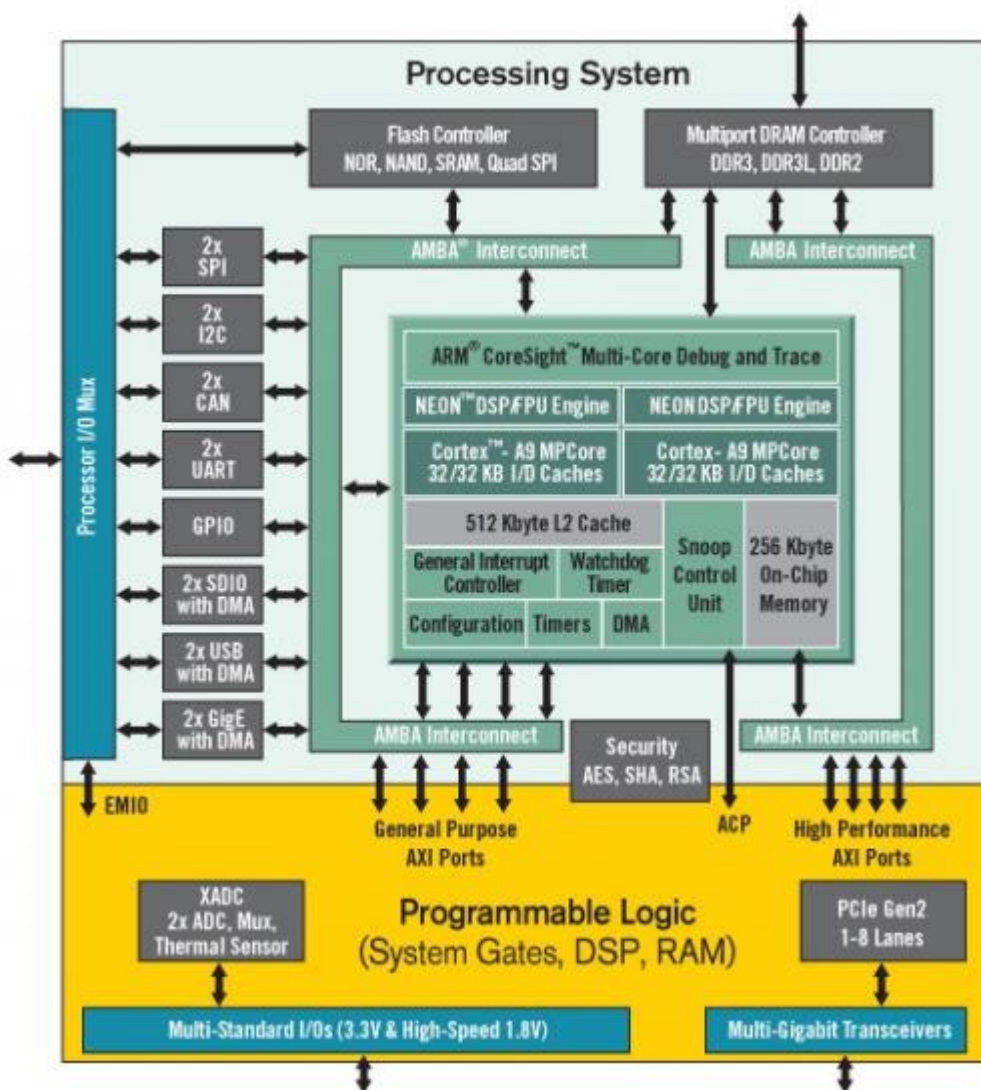

Figure 2.1 Zynq APSoC architecture
The Zynq APSoC is divided into two distinct subsystems: The Processing System (PS) and the Programmable Logic (PL). Figure 2.1 shows an overview of the Zynq APSoC architecture, with the PS colored light green and the PL in yellow. Note that the PCIe Gen2 controller and Multi-gigabit transceivers are not available on the Zynq-7010 or Zynq-7007S devices.
The Zynq-7010 APU contains two Cortex-A9 processors, while the Zynq-7007S APU only contains one. Peripheral controllers that do not have their inputs and outputs connected to MIO pins can instead route their I/O through the PL, via the Extended-MIO (EMIO) interface. The peripheral controllers are connected to the processors as slaves via the AMBA interconnect, and contain readable/writable control registers that are addressable in the processors' memory space. The programmable logic is also connected to the interconnect as a slave, and designs can implement multiple cores in the FPGA fabric that each also contain addressable control registers. Furthermore, cores implemented in the PL can trigger interrupts to the processors (connections not shown in Figure 2.1) and perform Direct Memory Access (DMA) transfers to and from DDR3 memory.